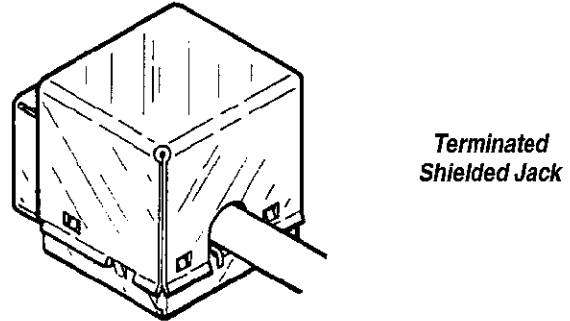

Figure 8
11. Press conductors flat against blocks. For shielded applications, slide the top shield over the housing until it snaps in place. See Figure 8.